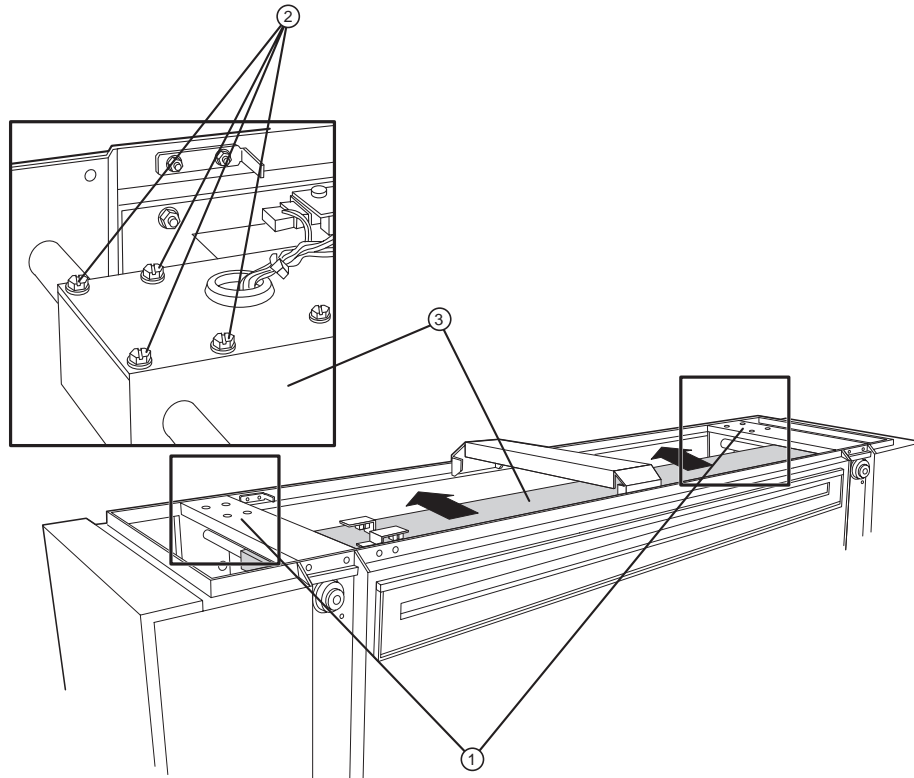

Figure 1-19 Buffer carriage adjustment screws.
①—End brace. ②—Access holes to alignment screws.
4. Loosen the eight (8) adjustment screws, four (4) on each side, at the top of the rail bearing block. Refer to Figure 1-19.